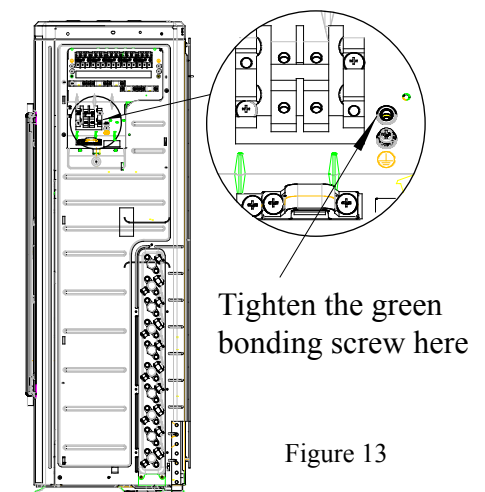

Figure 13
- (1). Open the side plate.
- (2). Connect the power cord to the terminals “L1”, “L2” and also the earthing screw, and then connect the wiring terminals “N(1),2,3” of the indoor unit to those of the outdoor unit correspondingly. Please use the green bonding screw to connect the earthing cord. The location is showing in the figure 13.
- (3). Fix the power cord with wire clips.
- (4). Let the power cord go through the rubber ring.